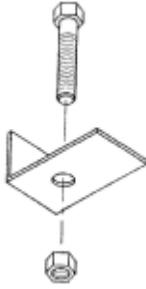

Figure 2. Assembly of filter retaining clip
- f. The HEPA filter will be retained in the diffuser with several “clips” which are held in a channel with a nut and bolt. Each retaining clip shall consist of a stainless steel nut and bolt and an angle clip with a hole. Precision Air recommends assembling the clip and bolt assemblies in accordance with Figure 2 on the following page before beginning installation of the filters.